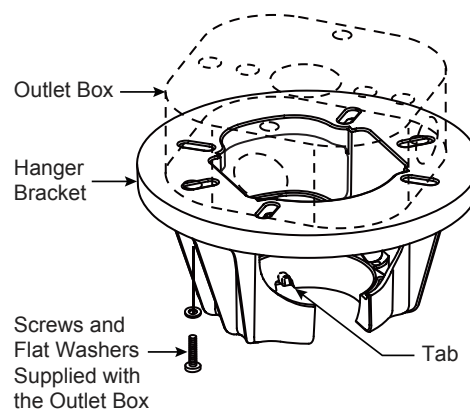

Figure 3
- ☐ 1. Securely attach the hanger bracket to the outlet box using the outlet box screws and washers supplied with the outlet box. (Figure 3)
NOTE: Outlet box screws pass through slotted holes of the hanger bracket. (Figure 3)
- ☐ 3. Carefully lift the fan and seat the downrod/hanger ball assembly onto the hanger bracket that was just attached to the outlet box. (Figure 4) Be sure the groove in the ball is lined up with tab on the hanger bracket. (Figure 3)